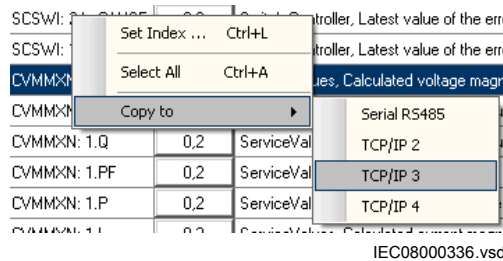

Figure 120: CMT: Context menu in DNP3 window
1. Click the two inner arrows to sort signals to another index sequence, or select *Set Index ...* from the context menu to move one or a set of signals to another array, see Figure 120.